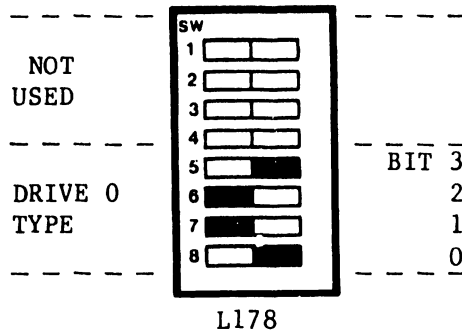
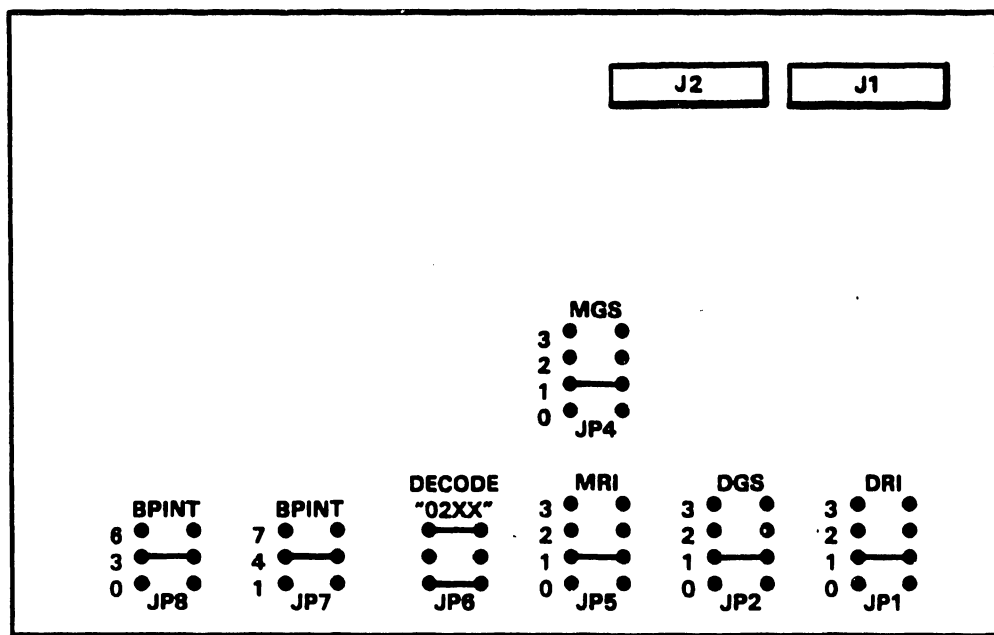

Figure 5-14b. SMD Disk Device Adapter.
Figure 5-14c. SMD Disk Device Adapter
3. Check the disk drive device type switch SW1 (figure 5-14b), and jumpers (figure 5-14c) on the new device adapter and install the adapter in Motherboard slot #5 as described in 5.3.2.5.1.